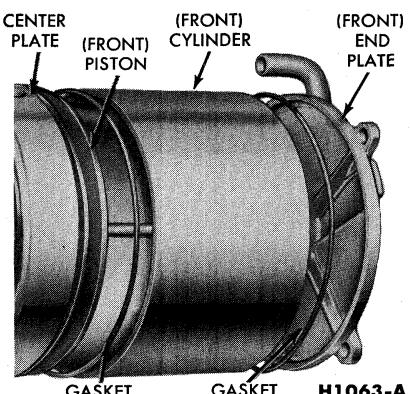

FIG. 49—Front Cylinder and End Plate Installation
35. Position a new gasket on the front edge of the center plate. Install the front cylinder to the center plate (Fig. 49). Coat the interior of the cylinder with vacuum oil. Carefully guide the push rod through the seal in the front end plate. At the same time, align the vacuum tube in the end plate with the vacuum tube on the center plate.